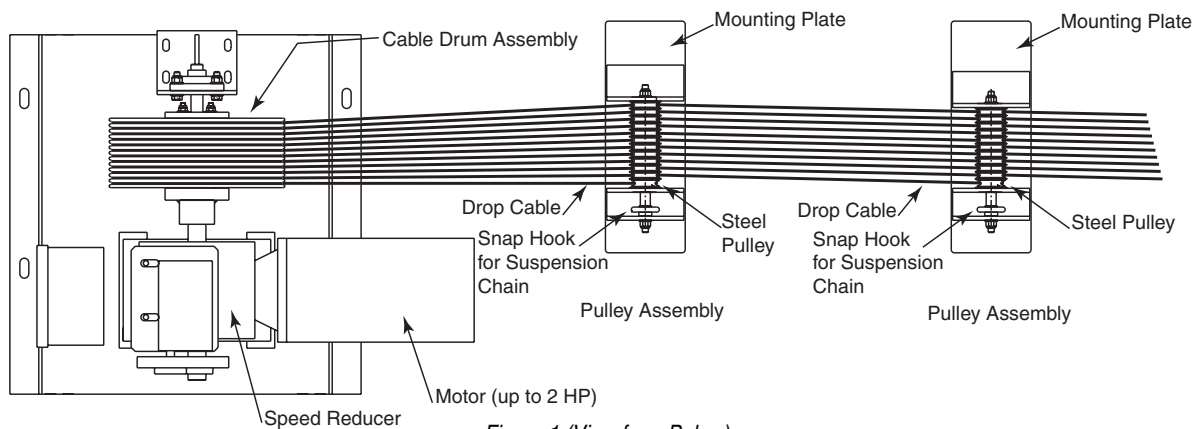

Figure 1 (View from Below)
- ① Verify overall height and width with shop drawing.
- ② Attach winch support angles to winch plate and install winch per location shown on shop drawing.
- ③ The $\frac{1}{8}$ " aircraft cables used to raise and lower the divider have been pre-wrapped on the winch assembly take-up drum to ensure even travel of the curtain. Winch is shipped with cables in the Full Down position. Make sure to set the down limit switch prior to operating the winch, to ensure that you don't reverse wrap the cables.
- ④ Attach cable pulley assemblies in locations as shown on shop drawing.
- ⑤ Make sure cable pulley assemblies are installed with the steel pulleys in alignment with the #1 cable (closest to gearbox) on the winch assembly. All nylon pulleys should be on the same side of the divider (see Fig. 1).
- ⑥ Beginning with the longest cable (the one that runs furthest from the winch), feed all of the $\frac{1}{8}$ " cables from the winch assembly over the top of each pulley on the pulley assemblies. There is one cable that drops vertically from each pulley assembly and this cable must drop from the steel pulley. The nylon pulleys will guide the remaining cables from one pulley assembly to the next. Make sure the cables are not twisted together between pulley assemblies.